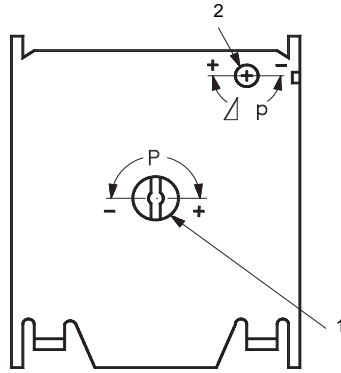

Fig. 6
A = Number of turns of the cut-out pressure screw (pos. 1), fig. 6.
3. Read the value on the number line. This value is the number of turns of the differential pressure screw (pos. 2), fig. 6.